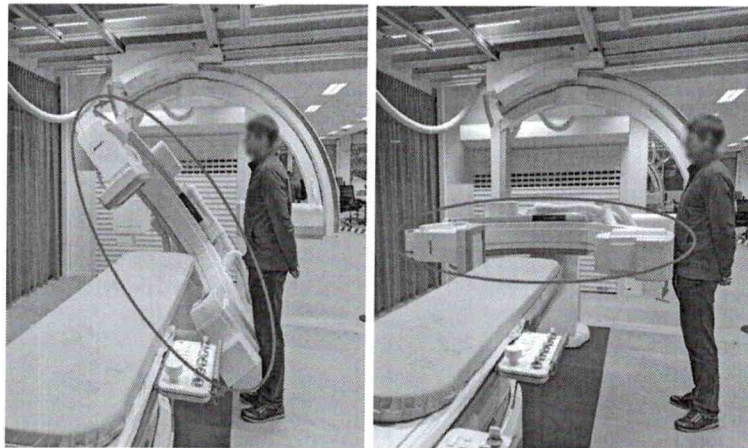

Figure 3: Erratic movements of C-arm (red circle) due to broken propeller motor clamping bolt.
- The broken propeller motor clamping bolt may cause erratic C-arm movements, and potentially colliding with patients or bystanders (see Figure 3). These unbalanced movements may also cause the system to falsely detect a collision, consequently blocking motorized C-arm movements.